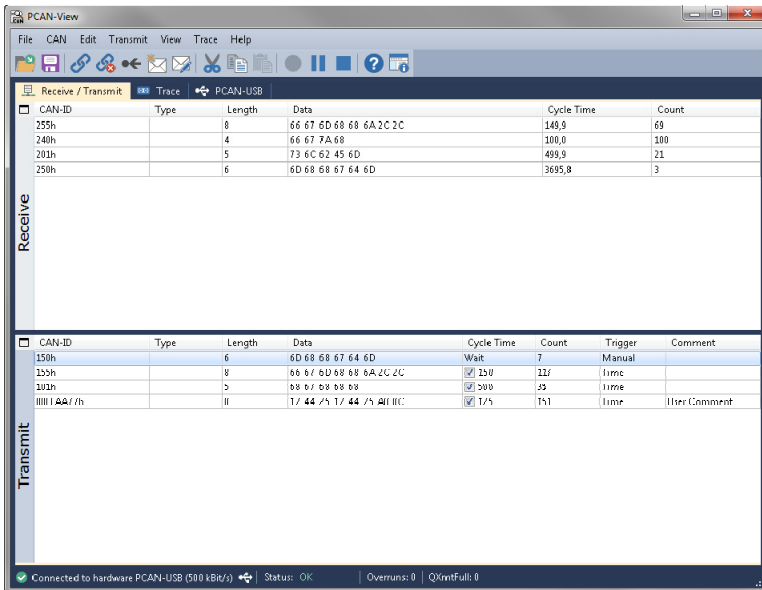

Figure 10: Receive/Transmit tab
6. Finally, confirm the settings in the dialog box with **OK**. The main window of PCAN-View appears (see Figure 10).